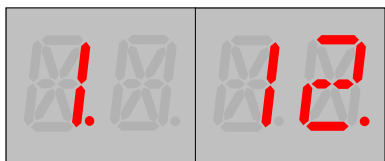

Figure 7d: SV with new stored value. Selecting this unstored value will store it, and a decimal point appears to its right indicating it is the stored value.
5. Pressing the SELECT pushbutton will store the displayed value for this SV. A decimal point appears to the right of the value to indicate it is the new stored value. See **Figure 7d**.